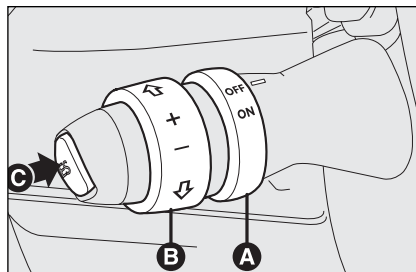

fig. 56
Turn knurled ring **A-fig. 56** to **ON**.
- turn the knurled ring **A-fig. 56** to **ON** and press the accelerator pedal to the required speed;
- press button **C-fig. 56**.
- turning the knurled ring **B-fig. 56** temporarily to (+).
- keeping the knurled ring **B-fig. 56** to (-) until reaching the new speed which will be memorised automatically.
Turn the knurled ring **A-fig. 56** to **OFF** or the ignition key to **STOP**. The device is automatically deactivated also in one of the following cases:
*In the event of device malfunction or failure, turn the knurled ring **A-fig. 56** to **OFF** and contact a Fiat Dealership after checking the protection fuse integrity.*